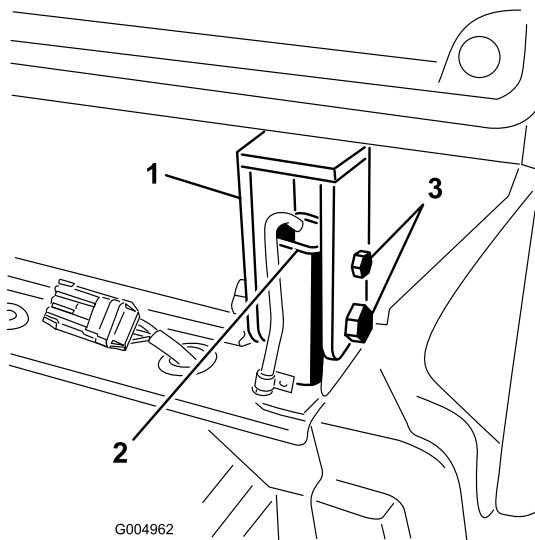

Figure 118
27. Tighten the bolts and nuts securing the rear cab mounts to the ROPS posts (Figure 118). Adjust the floor jack if the bolts are binding and difficult to remove.